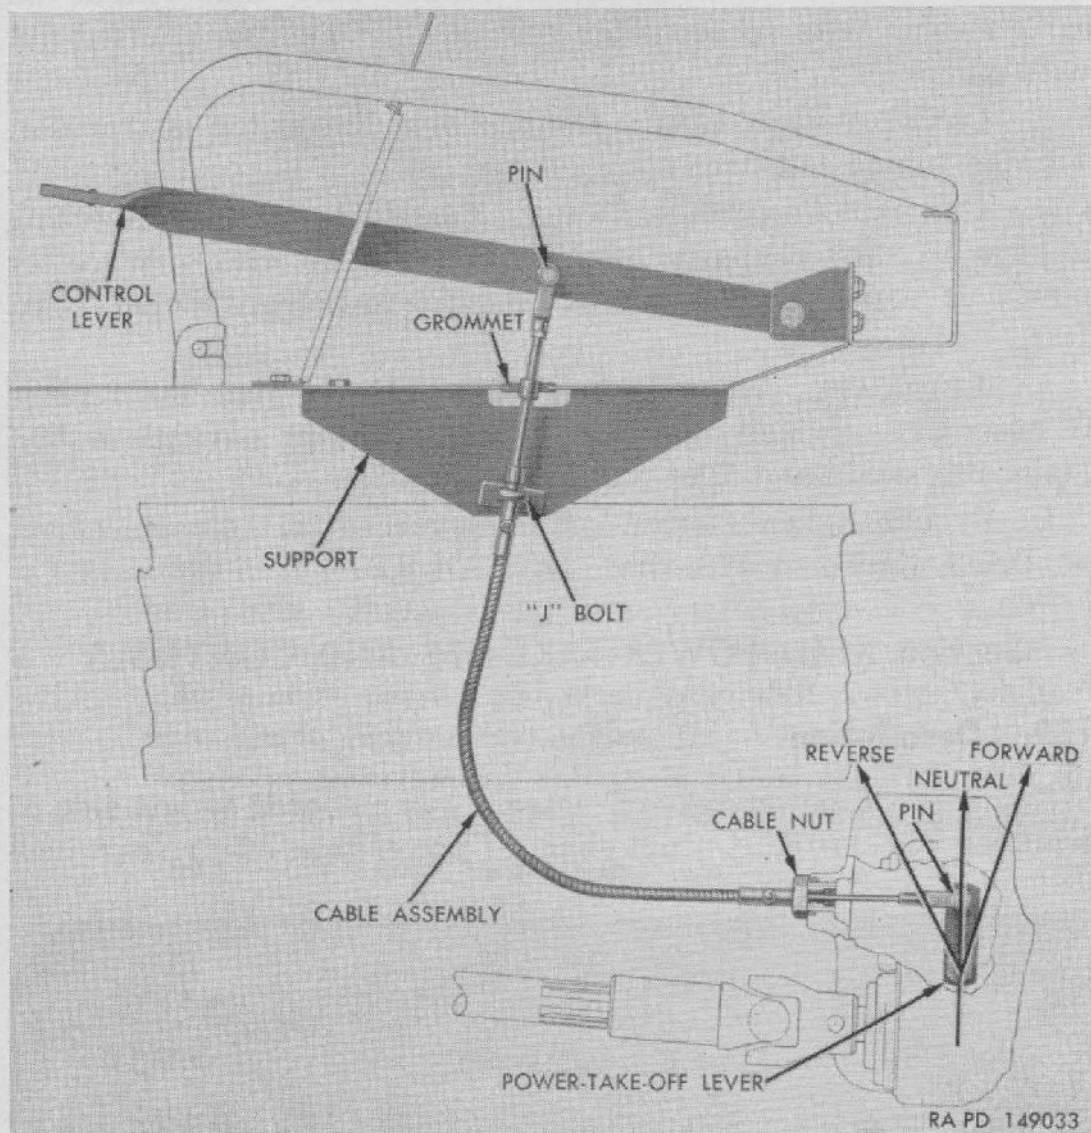

Figure 111. Power-take-off control linkage.
through drive shafts and universal joints. Power-take-off mechanism is placed into neutral, forward, and reverse driving positions by means of a manually-operated control lever, mounted under driver's seat. Lever is connected by cable linkage to shift lever on power-take-off (fig. 111). Operation of the power-take-off in conjunction with the winch is explained in paragraph 46.
a. GENERAL. The control cable assembly is connected to power-take-off control lever (in cab) and to shifting lever in power-take-off (fig. 111). Cable assembly is attached with a J bolt to a support bolted under floor pan. Cable assembly is equipped with an adjustable yoke at control lever (fig. 111).
b. LINKAGE REMOVAL (fig. 111).
- (1) Remove J bolt and nut attaching cable assembly to support under floor pan.
- (2) Remove pin from yoke at control lever.
- (3) Pull cable assembly down through rubber grommet in floor pan (under driver's seat).
- (4) Remove five bolts attaching cover plate to power-take-off. Reach in and remove clevis pin from yoke at take-off lever.
- (5) Loosen cable nut at power-take-off. Turn cable housing to remove cable assembly from power-take-off.
c. LINKAGE INSTALLATION (fig. 111).
- (1) Place nut and lock washer on lower end of housing; then insert lower end of cable into power-take-off. Install pin through yoke and take-off lever. Turn cable housing to thread housing into power-take-off case; then tighten cable nut securely.
- (2) Push cable assembly up through grommet in floor pan.
- (3) Attach cable assembly to support (under floor pan) with J bolt and nut. Make certain that J bolt engages groove in cable assembly.
- (4) With control lever in center slot of lock plate in cab (NEUTRAL) and shifting lever on power-take-off in vertical position (NEUTRAL), adjust yoke at control lever and at power-take-off lever for free entry of clevis pins without bind. Tighten jam nut at yoke.
- (5) Check action of linkage by placing control in lower slot in lock plate (FORWARD). Lever at power-take-off should move toward rear to engage power-take-off for pulling or winding in cable on winch (par. 46b). Place control lever in upper slot of lock plate (REVERSE). Lever at power-take-off should move forward to engage power-take-off for paying-out or unwinding cable on winch (par. 46c).
- (6) Install plate on side of power-take-off with five attaching bolts.
- (7) Lubricate cable through lubrication fittings in cable assembly (par. 57).